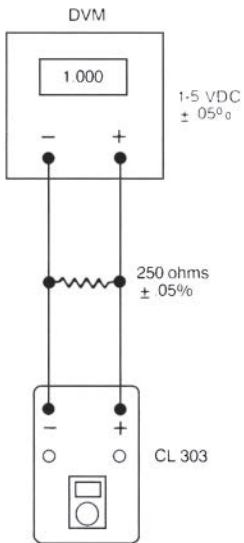

Figure 4-1. Measuring mA Output
4. Place the 250 ohm ($\pm 0.05\%$) resistor in series with the Model CL-303 output. The meter will read 1 to 5 volts corresponding to 4-20 mA through the resistor. See Figure 4-1.